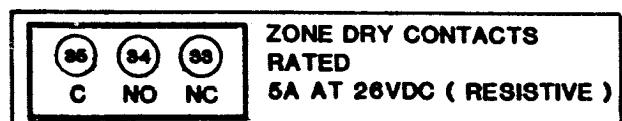

FIGURE 10
11. ZONE ALARM DRY CONTACTS (Fig. 10)